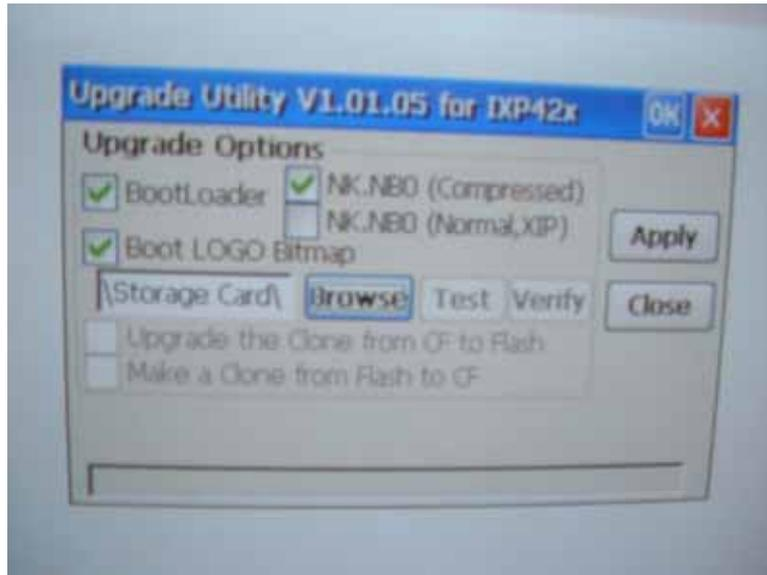

Figure 4.7 Press Apply button in order to upgrade onboard flash ROM After the upgrade process done, reboot system..
Step3. Check the items you want to upgrade as the figure shown in Figure 4.7. If you want to upgrade boot logo, you can input the path of the bitmap file in the edit box or click ‘Browse’ button to select the file.
(1) Boot time : compressed image take more time in system bootup.
(2) Flash file system size : compressed OS image would result in larger flash file system size.
Step4. Press ‘Apply’ button on the dialog. Then the items you select will be upgraded to the flash ROM. See Figure 4-7.